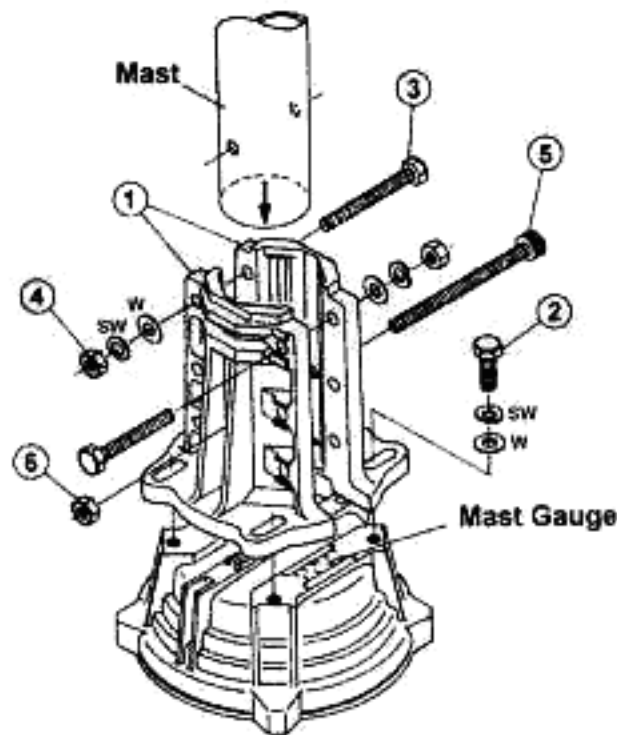

Figure 13
4. Partly tighten the mast clamp ① to the rotator housing using the supplied M8 x 30 bolts ②, spring washers and flat washers (see Figure 13).
5. Using a "gin pole" or other raising fixture, insert the antenna mast through the bearing from above, and set the mast in the rotator's mast clamps, then partly tighten the mast clamps using the supplied M8 x 70 bolts ③, spring washers and flat washers.